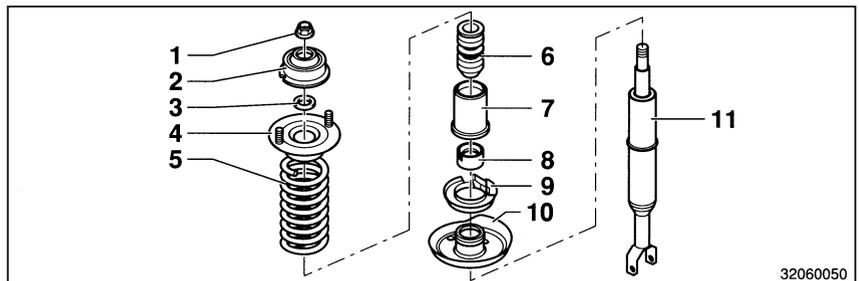

Figure 5 Front suspension strut
- Unscrew the bolt on the supporting mount (at bottom of suspension strut) and remove the strut (Figure 5/11).
- Clamp the strut in the clamping device and compress the coil spring (Figure 5/5) with
spring compressing device W4 until the upper spring seat is free (Figure 5/4).
- Unscrew the self-locking nut (Figure 5/1) from the piston rod using an Allen key to prevent movement.
- Release the bottom spring seat (Figure 5/10) with plastic-headed hammer and remove it.